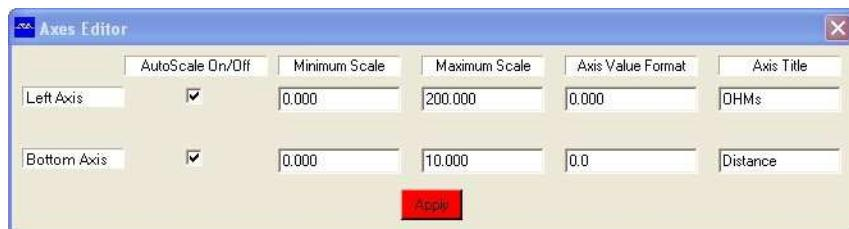

Figure 5-8
**Chart Axes** – Opens a Chart size control sub-window to select/deselect Autoscale and manually rescale the chart. See figure 5-8.